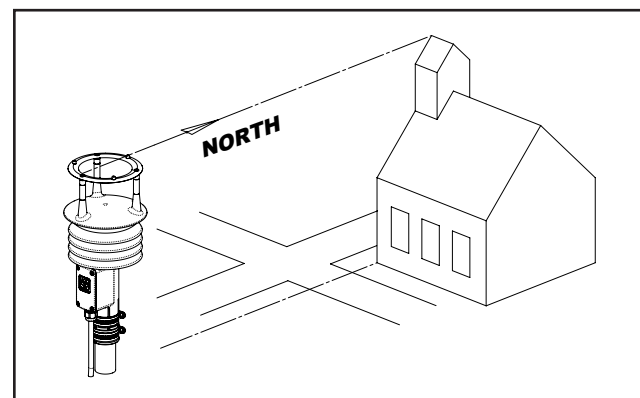

Fig 4.2.1 Sighting of Wind Sensor using Geographic Feature
- 3 Obtain accurate geographic data for the installation site, this can be a topographic map, graphical GPS map or detailed road map. Using the transducers as a sighting aid, align the sensor with a remote feature that represents the proper orientation (Fig 4.2.1). After alignment, tighten the mounting post band clamp to secure the position. **DO NOT OVER-TIGHTEN.**